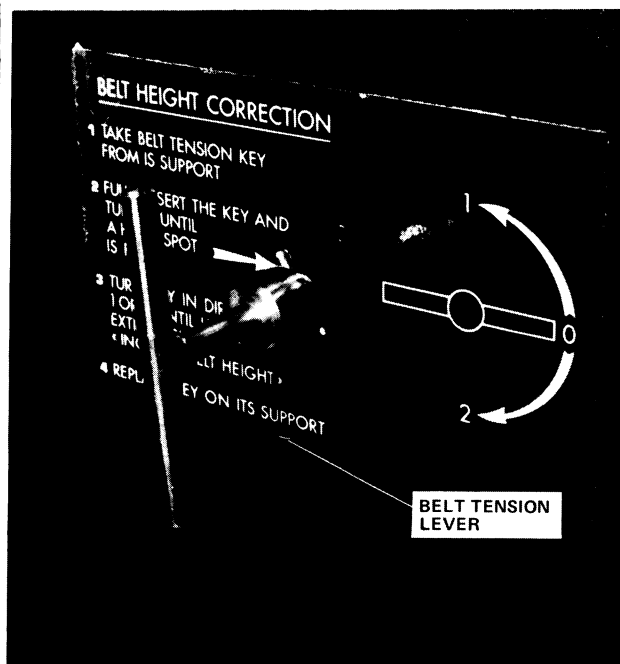

Figure 3-28. Belt Adjusting Key Inserted
2. Insert belt adjusting key (Figure 3-28).
3. Slowly turn adjusting key (Figure 3-28). incident indicator extinguishes and continue turning in same direction until key encounters locking position.